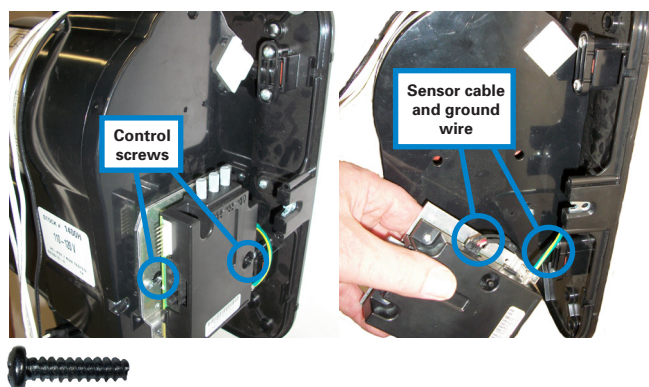
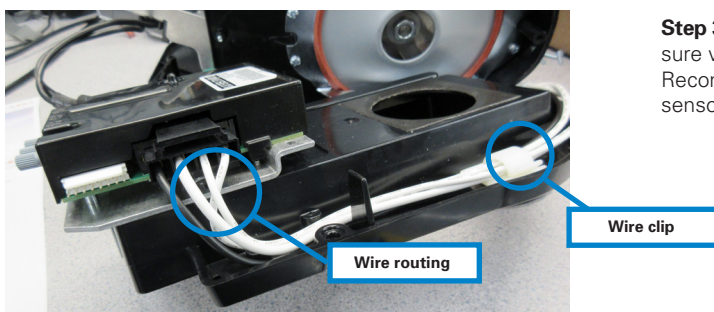

Figure 3-2
Figure 3-9
Step 3-2. Remove the **two (2)** screws that fasten the control bracket onto the dryer and save them for Step 3-11. Locate and disconnect the Sensor Cable by squeezing the tab while unplugging. Disconnect the green ground wire from the tab on the bracket. Place control off to the side for step 3-7 (Figure 3-2)
Step 3-9. Attach Control Harness Connector to Control and route wires making sure wires are installed under white Wire clip on the adapter (**Figure 3-9**). Reconnect green ground wire back on quick connect tab on bracket. Reconnect sensor to Control. (**Figure 3-2**)